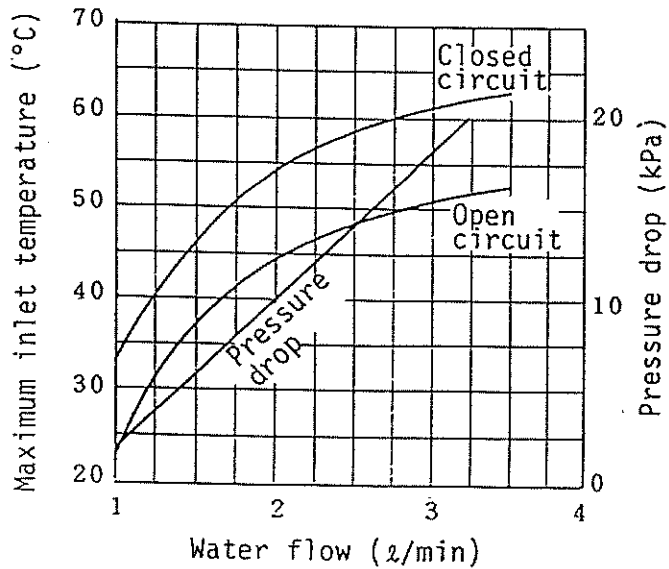

Fig. 2 Pressure drop for output antenna and filter box cooling vs. air flow
(8) See figure 2.
(9) Waveguide configuration